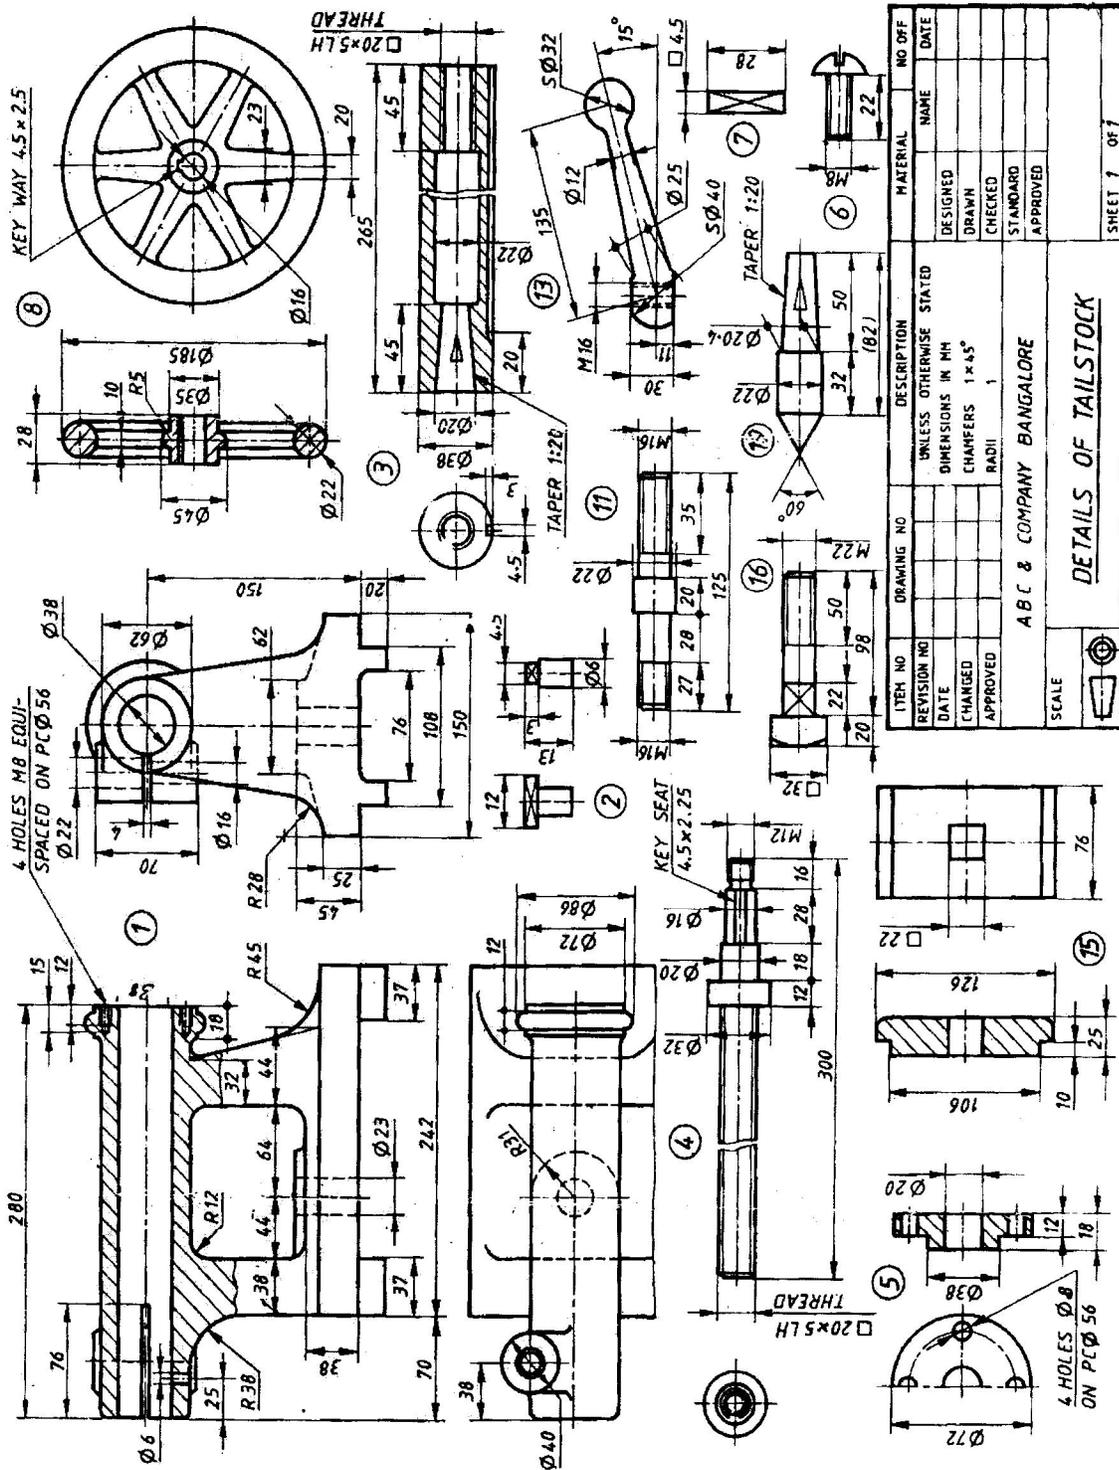

Figure 1 Details of a Lathe Tailstock
13. Draw the sectional front view and top view assembly of the Lathe Tailstock for which the part details are furnished in Figure 1.